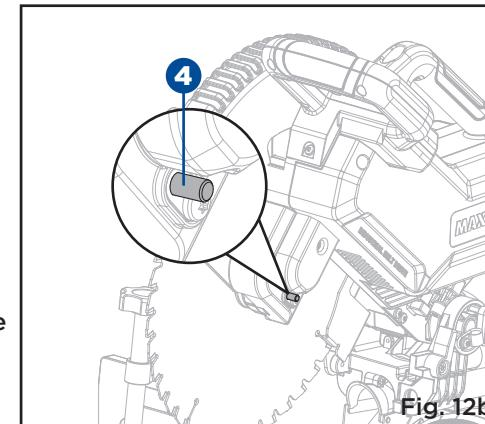

Fig. 12b
- Press in the arbour lock (4) on the back of the saw's head and hold it in (Fig. 12b).